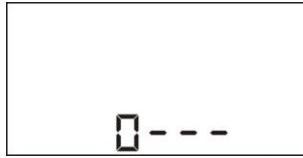

Fig. 4 Password Entry Screen
- a. Under standby status, press   at the same time, it will enter password entry screen (Fig. 4). At this moment the first digital flashes.